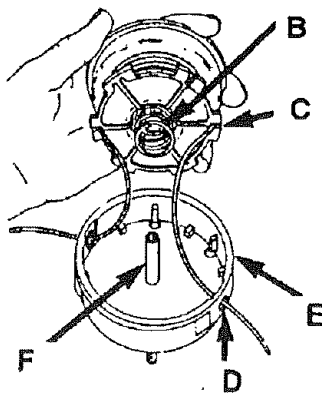

Fig. 2
3. To install new spool, make sure that the two strings are captured in the slots (C) opposite each other on the new spool. Extend end of string approximately 6 inches (15cm) beyond the slots (see Fig. 2).
4. Thread the strings into the eyelets (D) in the stringhead (E). Carefully push the spool into the stringhead (gently pull the strings to the outside if necessary). When the spool is in the stringhead, grasp the strings and pull sharply to release them from the slots in the spool. (See Fig. 2).
6. Make sure stringhead and spool retainer are installed on drive shaft (F) by turning the retainer clockwise to tighten.
2. Remove spool from stringhead (Note: Keep **spring (B)** attached to spool) (Fig. 2). Remove any old string remaining on spool.